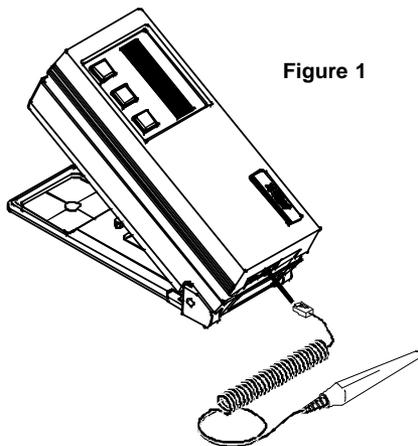

Figure 1
- 1) Insert the connector on the BCR into the I/O port of the instrument until it locks, usually indicated by an audible click. The connector inserts in one direction, (tab up) *DO NOT FORCE*. See Figure 1.